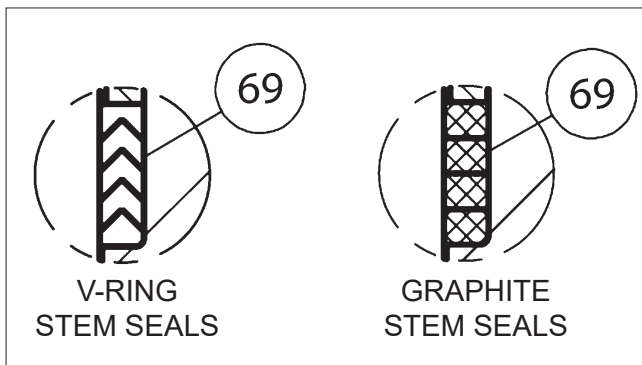

Figure 5. Stem Seal Orientation
8. Insert the stem (5), through the cap end of the body, being careful not to scratch the stem sealing surface; and press it gently up into the stem bore until resistance is felt from the stem bearing. Holding the stem in place from the bottom, insert the stem seals (69) over the stem (5). (see **Figure 5** for proper V-ring and graphite seal orientation).